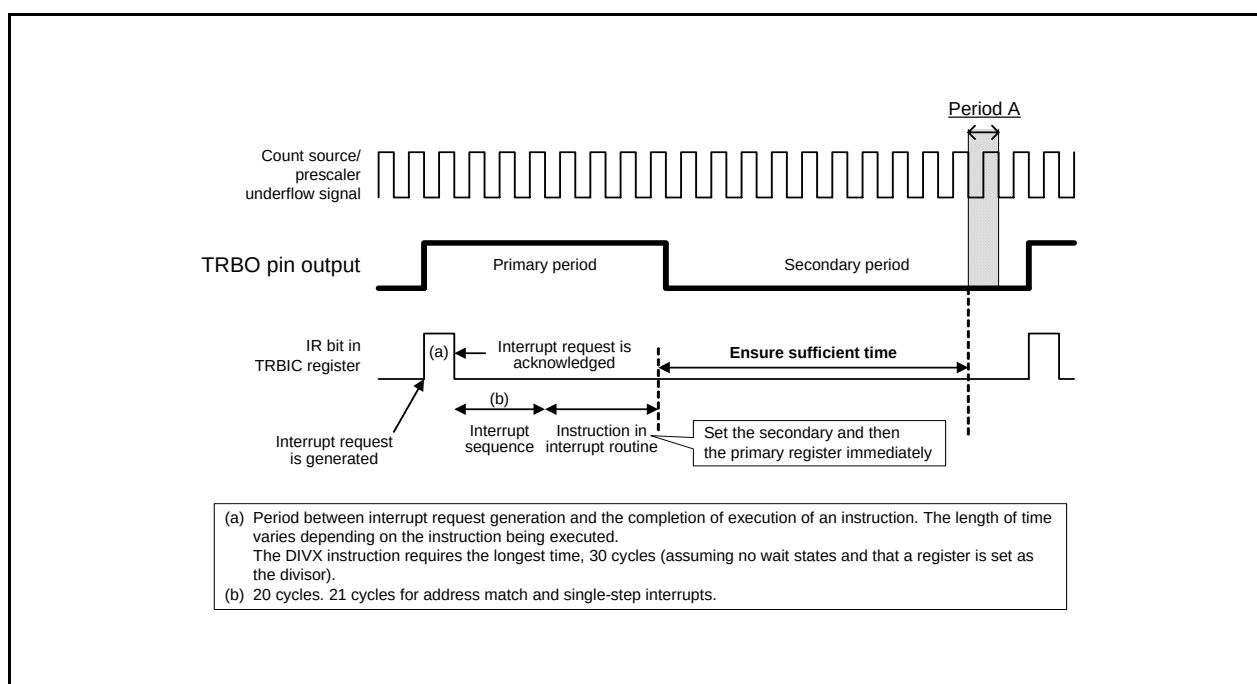

Figure 14.24 Workaround Example (a) When Timer RB interrupt is Used
- (1) To write to registers TRBPRE and TRBPR during count operation (TCSTF bit is set to 1), note the following points:
- (2) To change registers TRBPRE and TRBPR during count operation (TCSTF bit is set to 1), synchronize the TRBO output cycle using a timer RB interrupt, etc. This operation should be preformed only once in the same output cycle. Also, make sure that writing to the TRBPR register does not occur during period A shown in Figures 14.24 and 14.25.
As shown in Figure 14.24, write to registers TRBSC and TRBPR in the timer RB interrupt routine. These write operations must be completed by the beginning of period A.